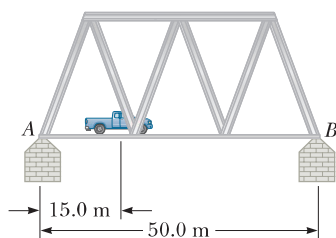

Figure P12.37
37. A bridge of length 50.0 m and mass $8.00 \times 10^4 \text{ kg}$ is supported on a smooth pier at each end as shown in Figure P12.37. A truck of mass $3.00 \times 10^4 \text{ kg}$ is located 15.0 m from one end. What are the forces on the bridge at the points of support?